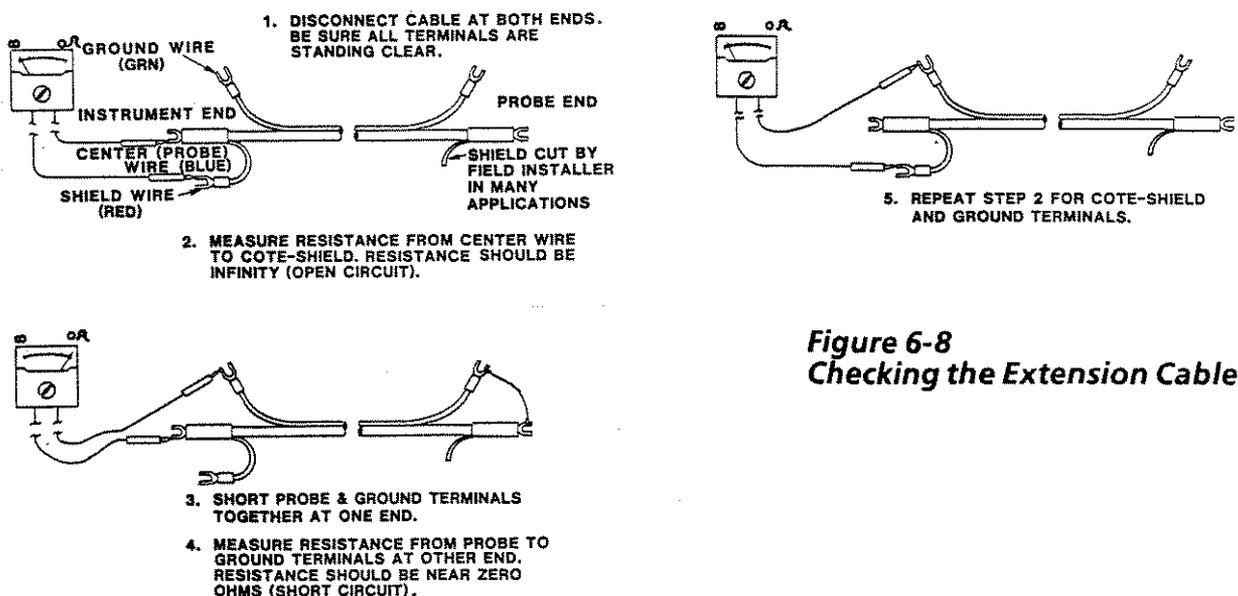

Figure 6-8
6.6 Checking the Extension Cable. See Figure 6-8